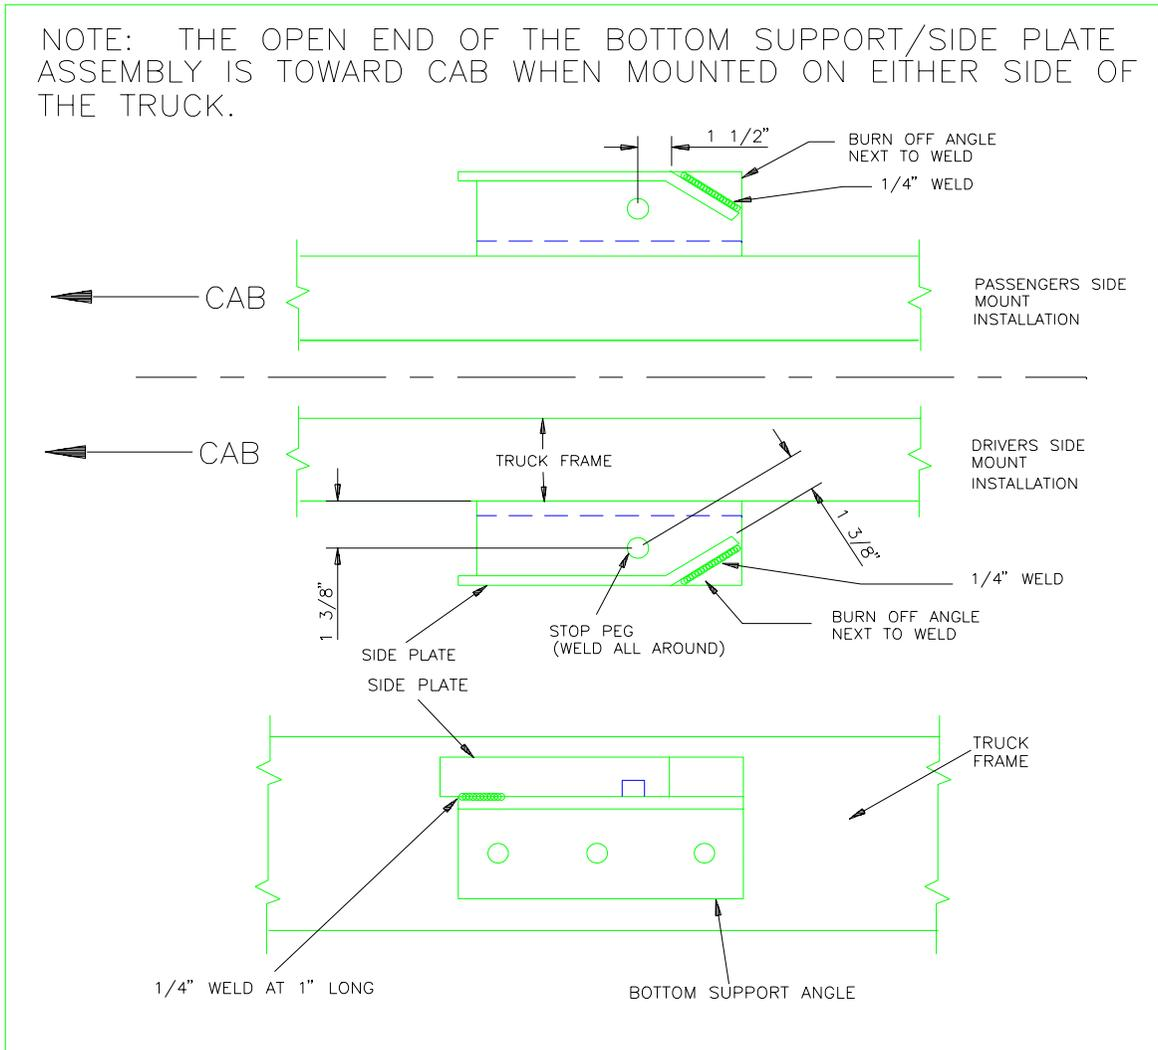

Figure 21: Side Plate and Stop Peg Position
5. Weld the Side Plate and Stop Peg following the dimensions shown in Figure 21.
6. Burn off the corner of the Bottom Support Angle as shown in Figure 21.